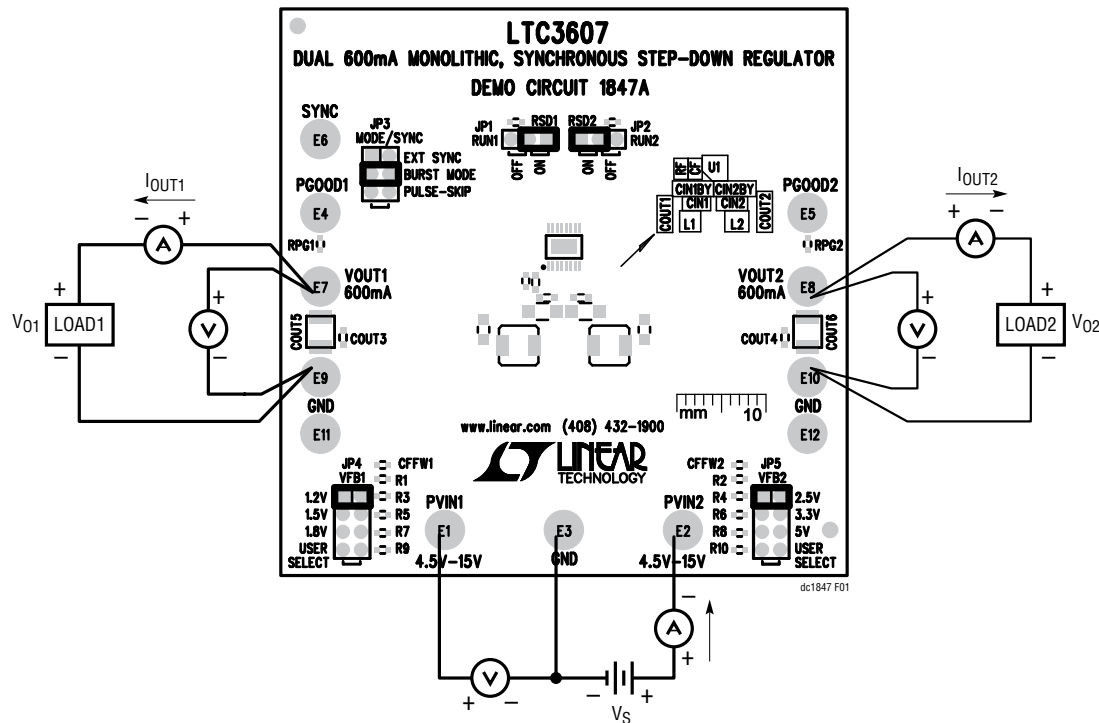

Figure 1. Proper Measurement Equipment Setup
Demonstration circuit 1847A The DC1847 is easy to set up to evaluate the performance of the LTC3607. For a proper measurement equipment configuration, set up the circuit according to the diagram in Figure 1.
1. Connect the input power supply to the  $PV_{IN1}/PV_{IN2}$  and GND terminals ( $V_{IN1}$  and  $V_{IN2}$  are separate nodes but are connected.). Connect the loads between the  $V_{OUT}$  and GND terminals. Refer to figure 1 for the proper measurement equipment setup.